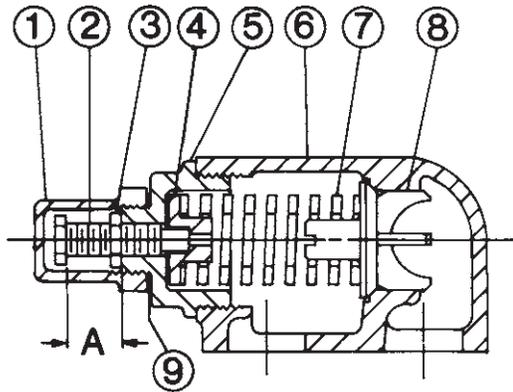

FIGURE 13
2. Measure and record the length of extension of the adjusting screw. Refer to "A" on Figures 13 and 14.